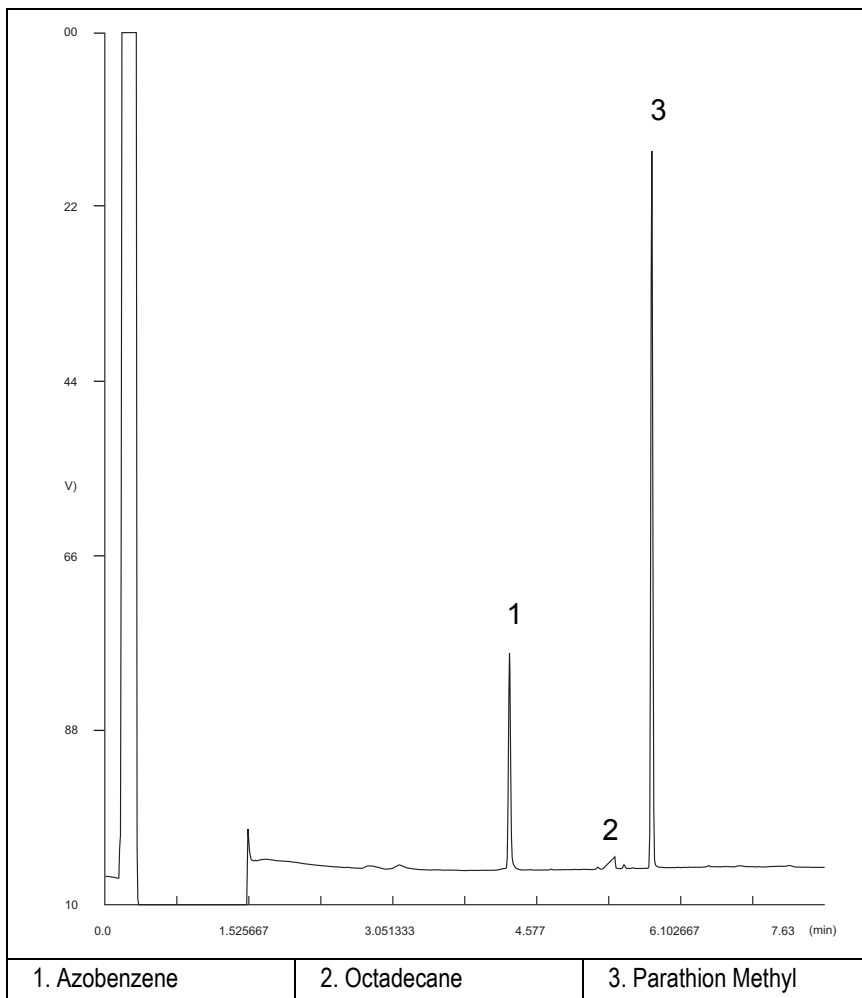

Figure 16-1. NPD-PTV Injection
15. Inject the test mixture and press **START** on the GC to begin the checkout run. The resulting chromatogram should look like the one shown in *Figure 16.1*.